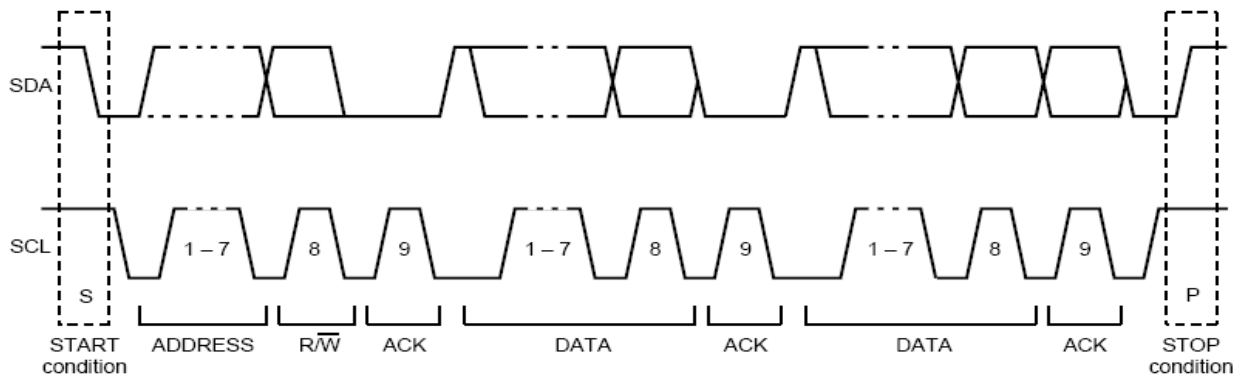

Fig. 11-2: RW bit in the 8th bit after IIC address
**RW1:** This bit will be sent out as RW of the slave side if the module has set the FU\_EN[1:0] = 10. It appears at the 8th bit after the IIC address as shown in Fig. 11-2. It is used to tell the salve the direction of the following communication. If it is 1, the module is in master receive mode. If 0, the module is in master transmit mode.